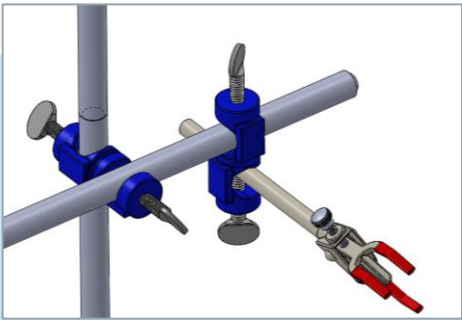

Figure 8. Install the Equipment Clamps
6. Install the Equipment Clamps from Step 2 onto the Rod at the desired positions (Figure 8).